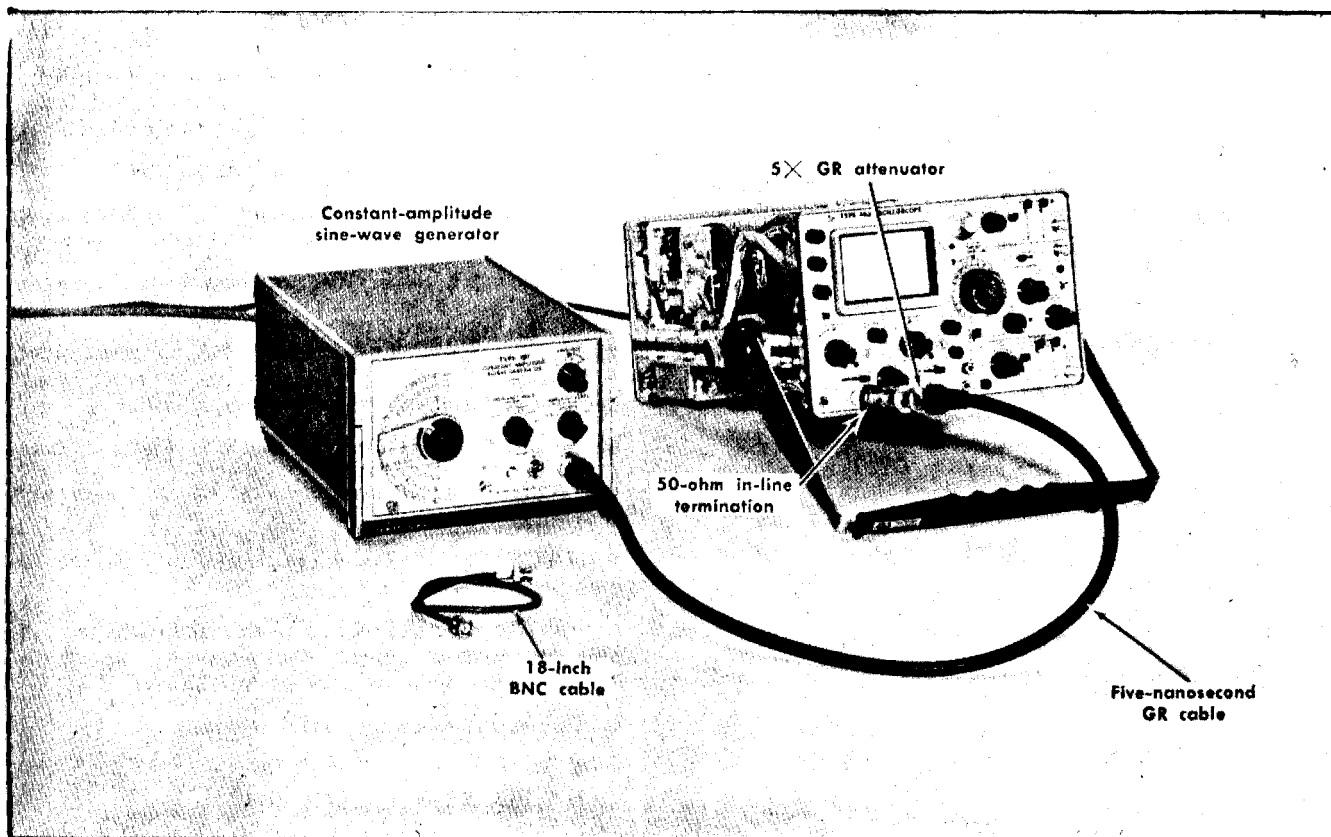

Fig. 6-23. Initial test equipment setup for steps 25 through 27.
a. Test equipment setup is shown in Fig. 6-23.